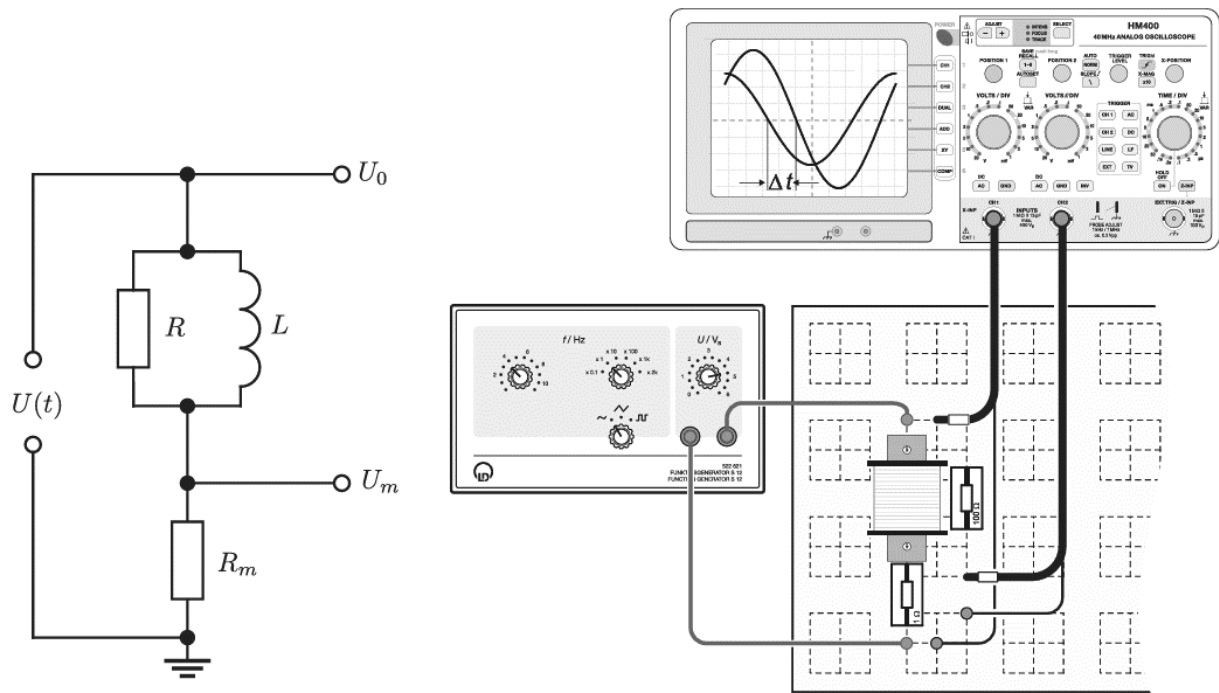

Fig. 35.5. Experimental setup for determining the impedance in circuits with coils and ohmic resistors in parallel connection
8. One after another, connect the two coils in parallel with the 100 Ω resistor (Fig. 35.5), and repeat the measurement.